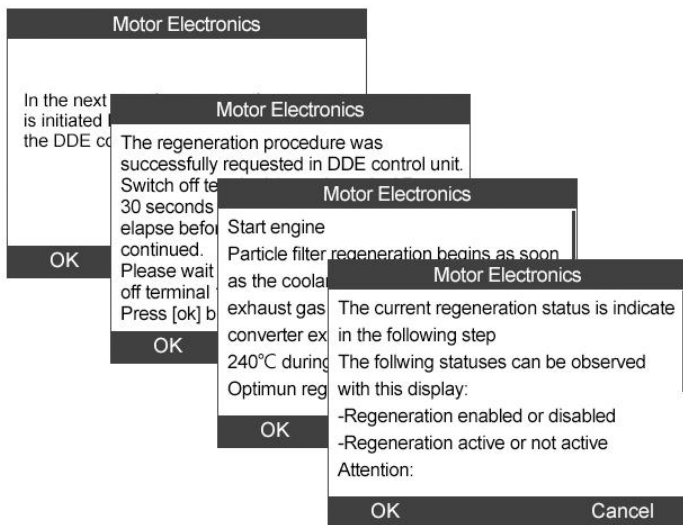
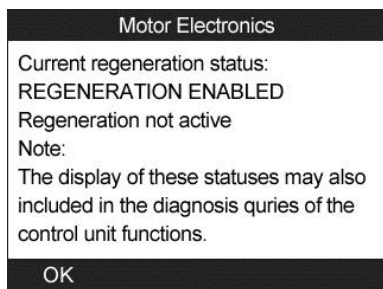

Figure 13-24
Figure 13-25
- 4) A series of instruction screens appears for users to perform the particle filter regeneration step by step. Follow the onscreen instructions and press the **OK** button.(Figure 13-24) Do this until the tool reads off the regeneration status as below.(Figure 13-25)